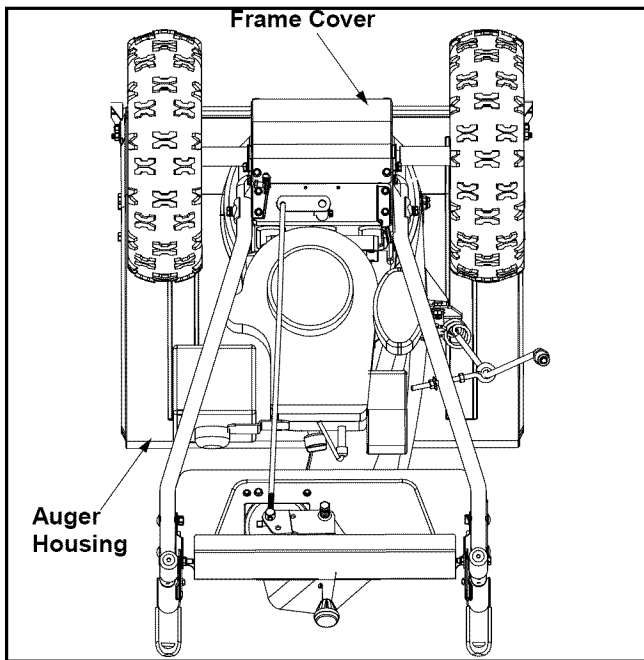

Figure 18
- Tip the snow thrower forward, allowing it to rest on the auger housing. See Figure 18.
- Tip the snow thrower up and forward so that it rests on the housing. See Figure 18.